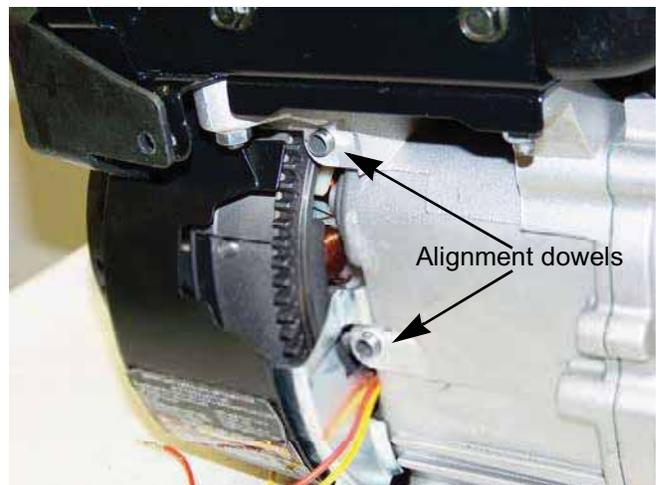

Figure 6.12
**NOTE:** Make sure the alignment dowels are in the engine block before installing the starter. See Figure 6.12.